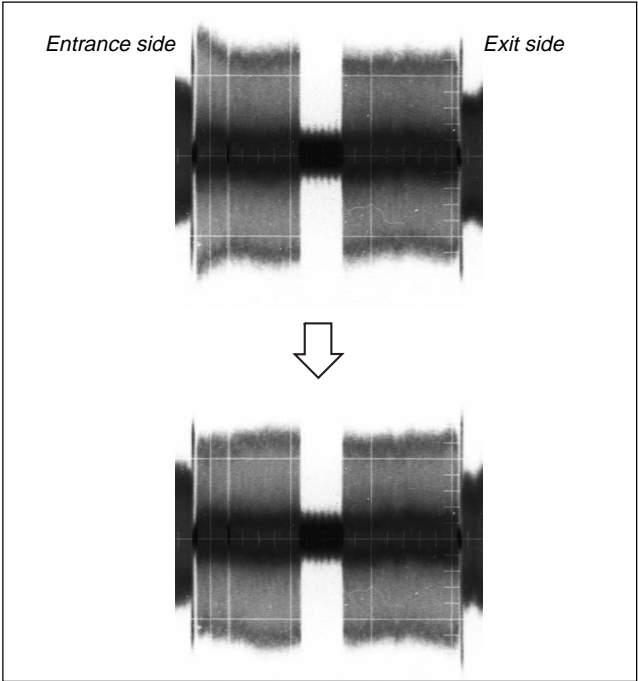

Fig. 4-8
- 2) Adjust the TG3 and TG5 guides until the RF envelope waveform becomes flat. (Refer to Fig. 4-8.)
- 2) Adjust the TG3 so that the RF envelope has the larger amplitude at the entrance side first, then adjust TG3 guide for flat amplitude. (Refer to Fig. 4-8.)